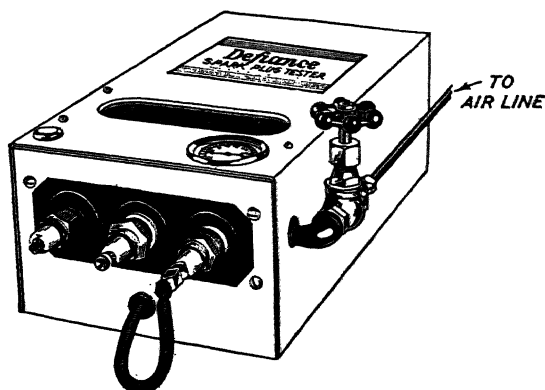

Fig. 11. Compression Type Spark Plug Tester
**Compression Type Spark Plug Tester.** To test the spark plugs under conditions approximating those under which they are operating, the compression test is sometimes used. A device designed to handle this type of test is illustrated in Fig. 11. The device is equipped with the electrical connections necessary for plugging into the regular current supply from the lighting circuit. A transformer and coil are incorporated. In use, the spark plug to be tested is screwed into the compression chamber which is fitted with screw threads to take the popular types of plugs. After the plug is in